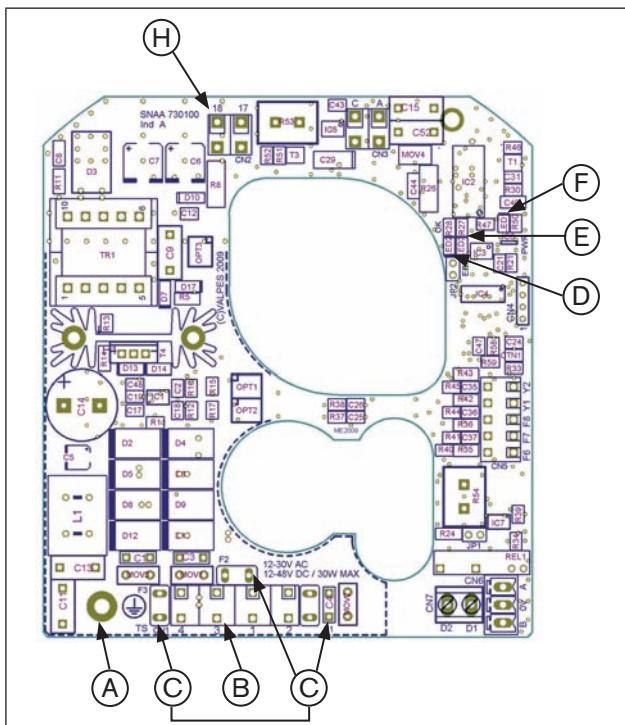
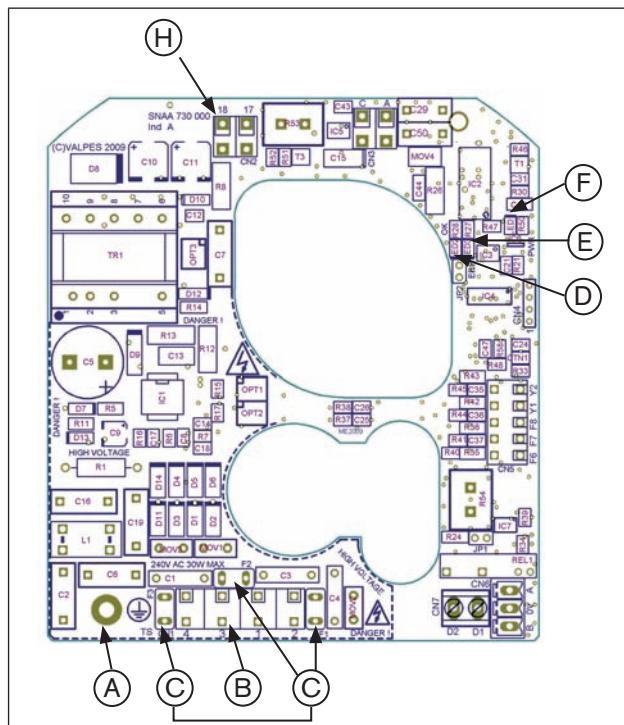
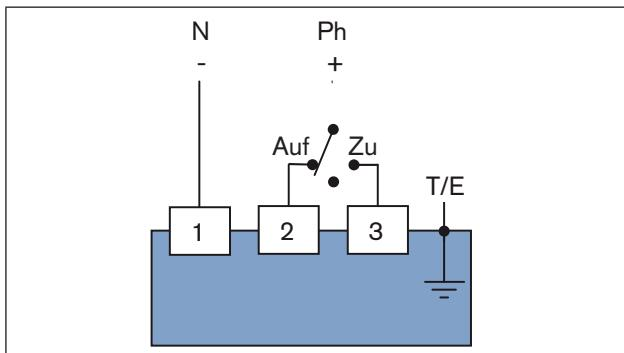
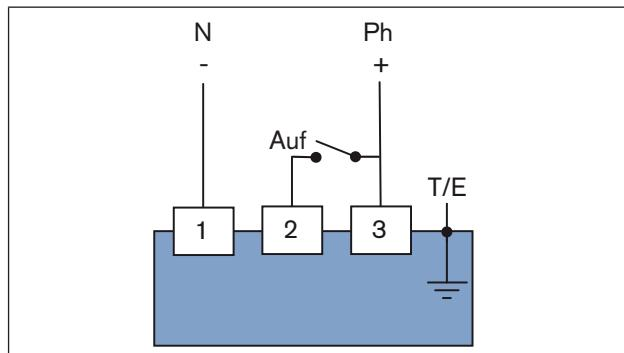

Figure 14: Power supply circuit board 15-30 V 50/60 Hz (12-48 V DC)
Figure 15: Power supply circuit board 100-240 V 50/60 Hz (100-350 V DC)
Figure 16: Three points mode
Figure 17: Open / Closed mode / Emergency current model
- To do this, loosen earthing screw and attach eyelet of the earthing cable with the earthing screw (see "Figure 14" and "Figure 15").
- Connect cable according to the required control type (see "Figure 16" and "Figure 17") to the terminal strip Pos. B of the power supply card (see "Figure 14" and "Figure 15").
Operating principle for Open / Closed mode (see "Figure 17") :